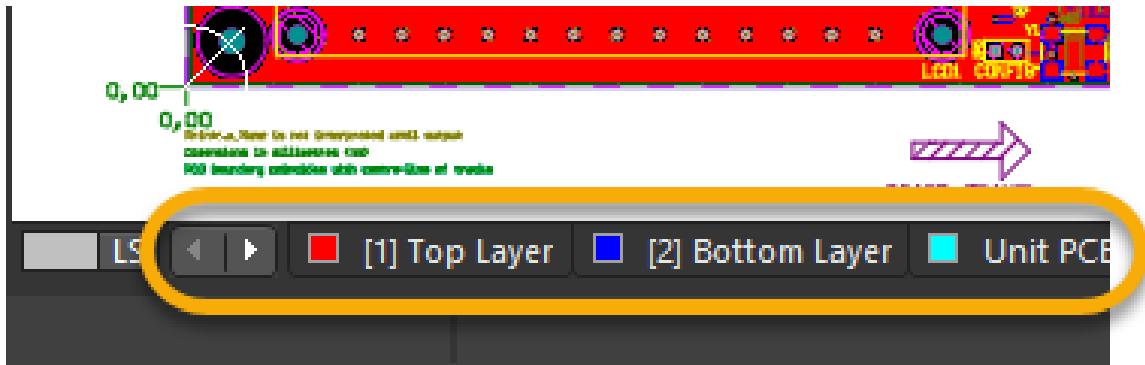

Figure 7. Ensure the Top Layer is Active
- Left-click to select the **Top Layer**. You will know the layer is the active layer once the layer text is in bold writing as shown in Figure 7. You can use the arrows to scroll through the available layers.